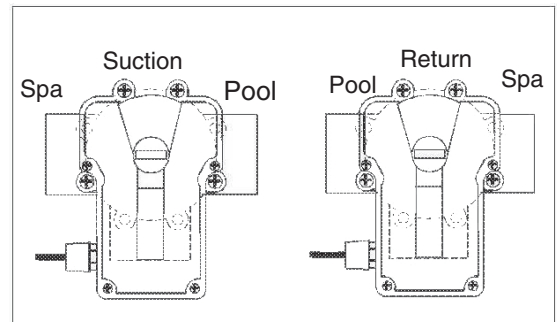
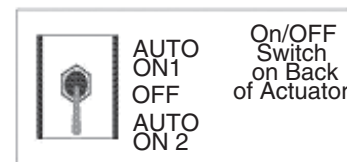

Figure 6. Synchronization, Example
Figure 7. Synchronization, Toggle
Figure 6 on the right represents the valves and actuators for a pool/spa combination. The valve on the left (spa on left and pool on right) is plumbed just the opposite as the one on the right (pool on left and spa on right). If the actuators are now activated, one will turn to spa while the other is turning to pool. Changing the cam settings within the actuator will not correct this problem. To synchronize the actuators, flip the toggle switch at the rear of the actuator (which is out of sync) to the extreme opposite position. (See figure 7. Note: center position is OFF).
1. At the rear of the Actuator, toggle the valve switch until the desired rotation is reached. See Figure 7 on previous page.
1. At the rear of the valve actuator, toggle the switch to the center (OFF) position. See Figure 7.